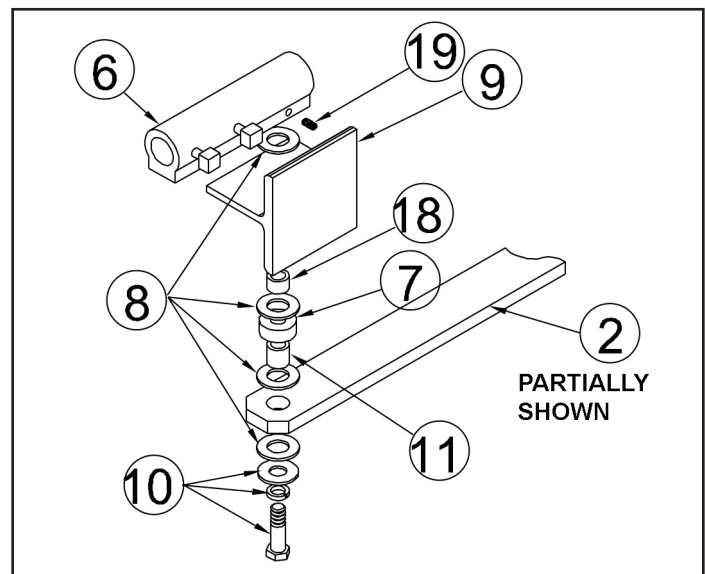

Figure 5. Overtravel Stop Installation
See Figure 5. Slide a 1/2" lock washer and flat washer onto the 1/2-13 x 2 1/2" hex head bolt (10). Add a nylon washer (8), then slide the bolt through the crank extension (2) and hold in place. Next, insert the yellow-plated pivot spacer (11) into the crank extension, add a nylon washer (8) and place the offset spacer (7) on top of the nylon washer. Add a nylon washer (8) to the top of the offset spacer (7) and add the silver zinc-finish overtravel stop spacer (18). Slide the overtravel stop bracket (9) over the silver zinc-finish spacer and add the last nylon washer (8) above the bracket. Carefully screw the bolt assembly into the aluminum gate clamp (6) until the lock washer has been fully compressed. The overtravel stop and crank extension should float freely, without binding, when it is fully assembled. Tighten set screw (19) to further lock hex bolt (10) in place.